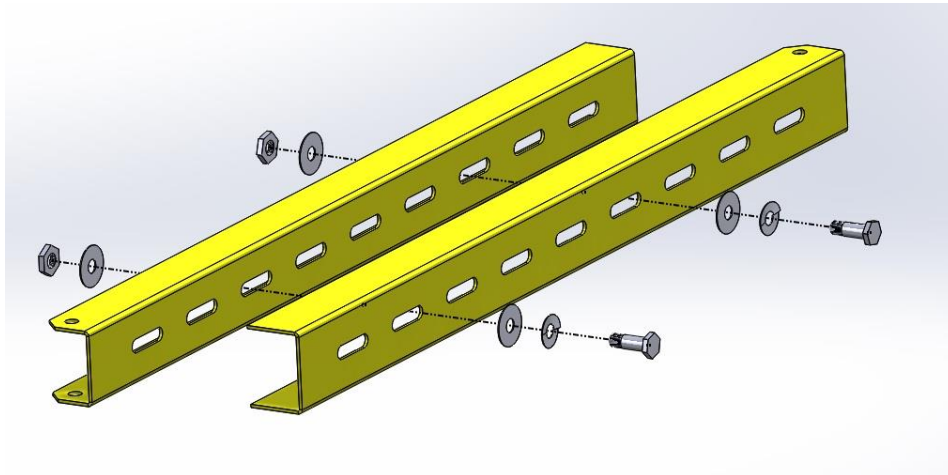

Figure 12. Support rail assembly
12. To assemble the support rails, fit the smaller inner channel inside the larger outer channel so that the mounting holes on the flanges are opposite one another. Slide the channels to obtain the correct length determined by the panel tilt angle. Secure the support rails together at the desired length using a drop of threadlocker, a 1/4-20 x 3/4" hex bolt, lock washer, and flat washer on one side, and a flat washer and hex nut on the other side (2 per rail assembly) as shown in **Figure 12**.